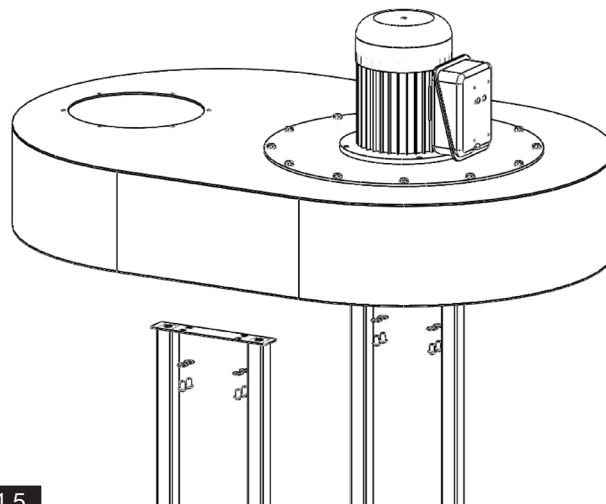

FIG. 4.5
5. With the help of two assistants, lift the impeller housing onto the support legs. Secure the impeller housing to support legs with (8) 5/16" x 18-3/4" button head screws and (8) 5/16" x 18 fender washers. Fully tighten all fasteners installed in Steps 2-4. (Fig.4.5)